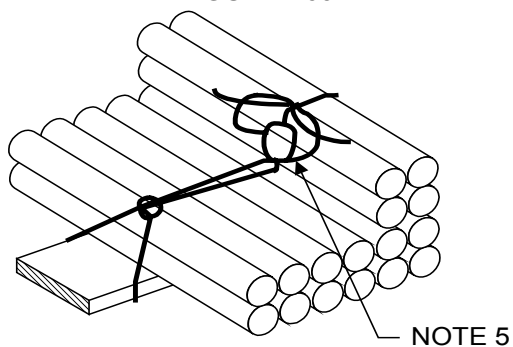

FIGURE 16e
5. MAKE "KANSAS CITY" STITCH THROUGH THE FIRST BOTTOM STITCH IN ACCORDANCE WITH FIGURE 16e.